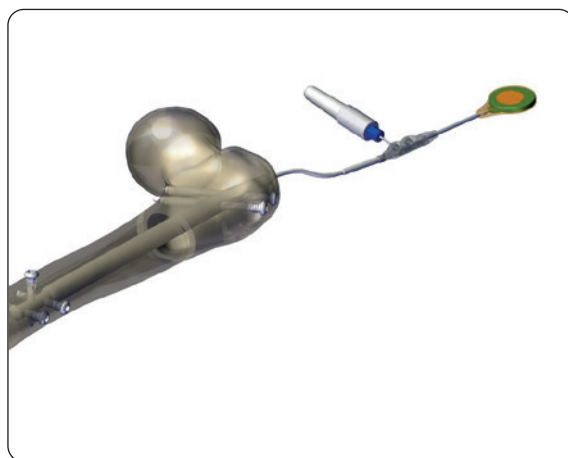

**Fig. 55** Transport locking device removal
Place a drop of saline on the plug of the cable and insert into the coupling (**Fig. 55**).
**PRECAUTION:** Make sure the white ring (see blue circle in Figure 55) is in connection with the start of the coupling.